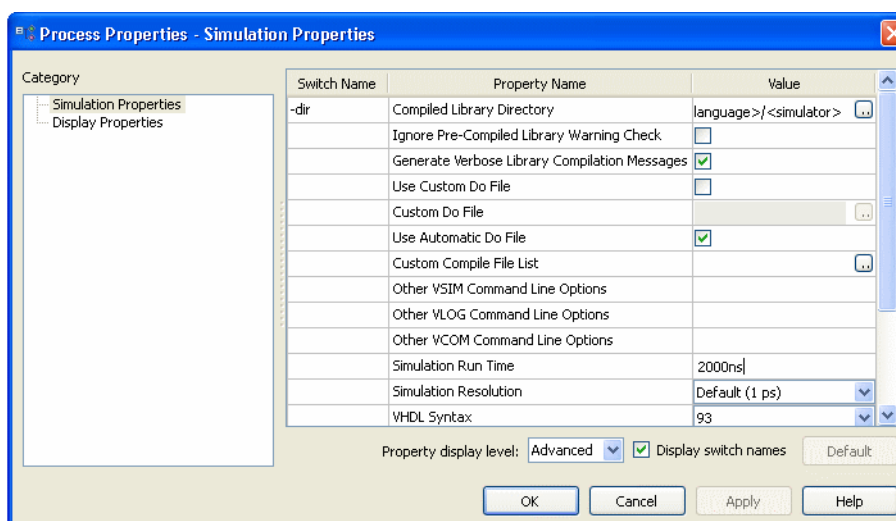

Figure 5-3: Behavioral Simulation Process Properties
3. In the Process Properties dialog box (Figure 5-3), set the Property display level to **Advanced**.